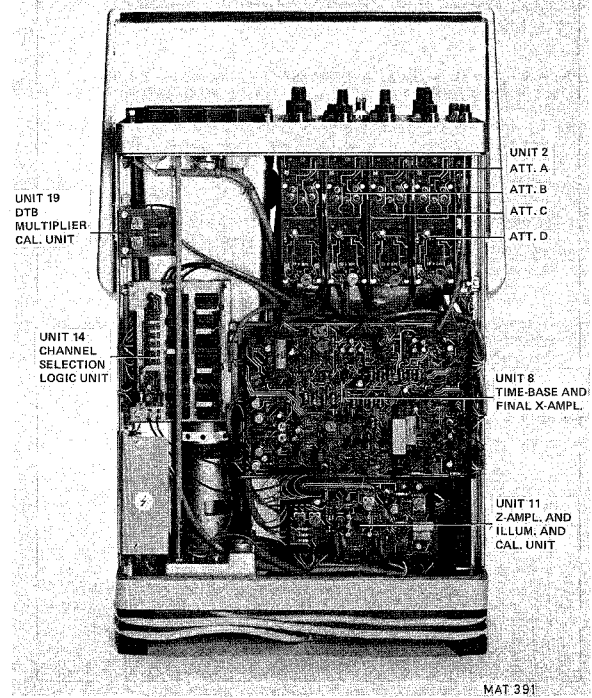

Fig. 3.5. Unit location, bottom view
#### 3.4.4. Removing the attenuator unit (fig. 3.5)
**3.4.5. Removing the time-base and X amplifier circuit board (fig. 3.5)**
**3.4.6. Removing the Z amplifier circuit board (fig. 3.5)**
**3.4.12. Removing the 1600 V converter circuit board (fig. 3.5)**